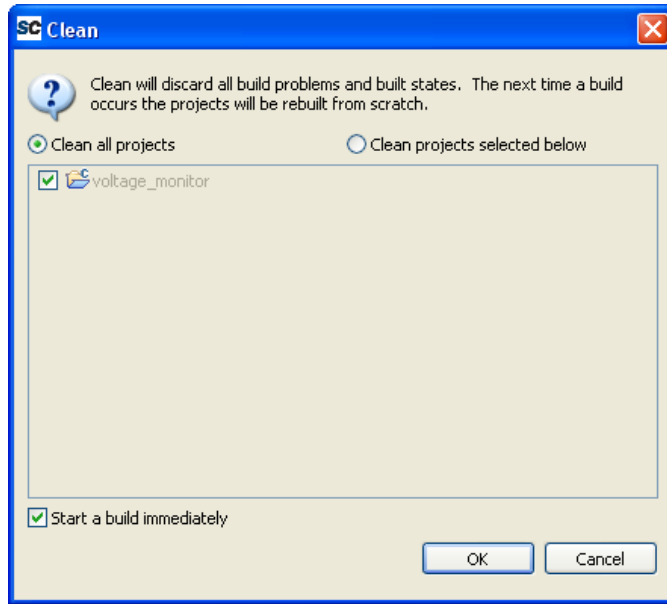

Figure 4-2 · SoftConsole Clean Dialog Box
- Perform a clean build by selecting **Clean** from the **Project** menu. Accept the default settings in the Clean dialog box and click OK (Figure 4-2).